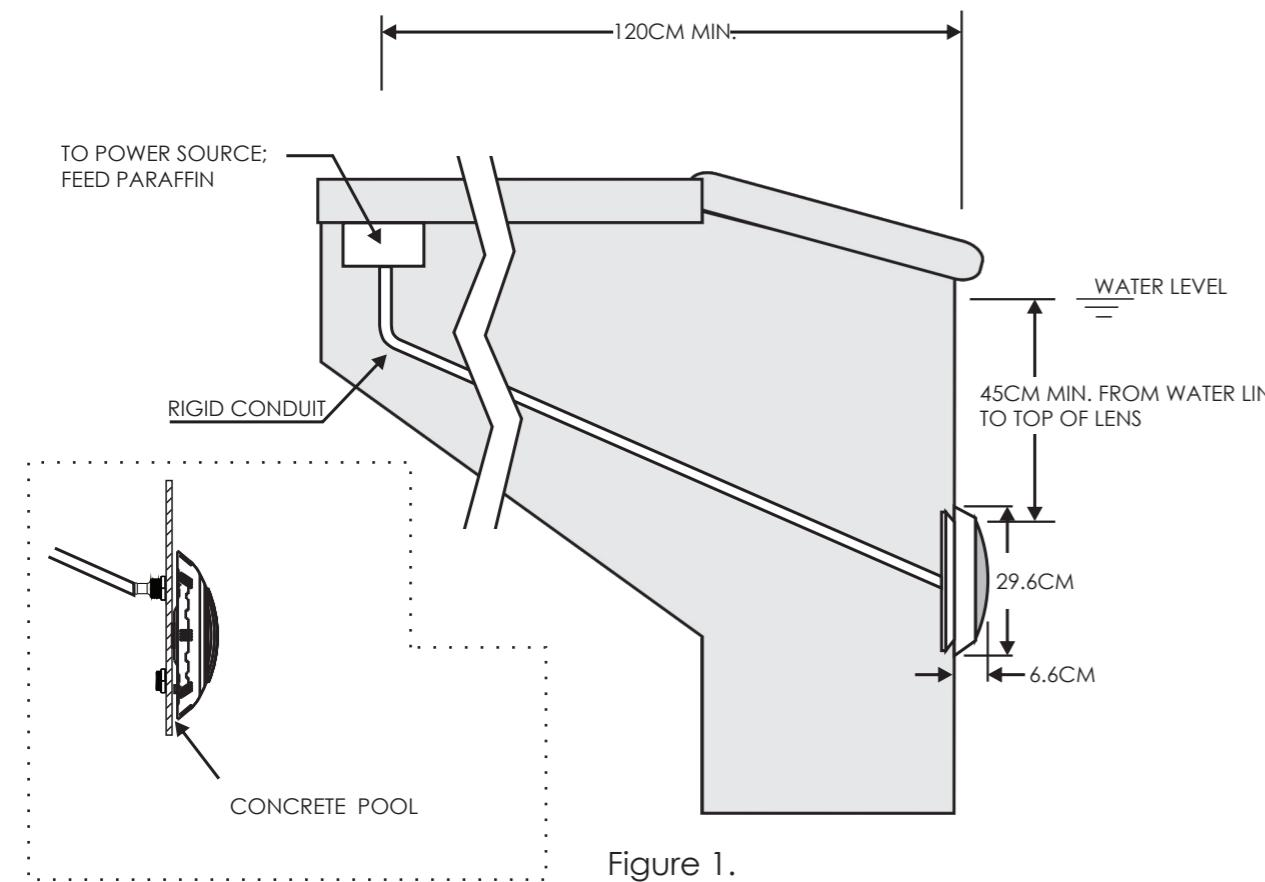

Figure 1.
A) Preparatory steps which must be completed by the electrician before light is installed, see Figure 1.
- a) The junction box, or the low voltage transformer for 12 volt Underwater Light model is to be located at least 120cm from the edge of the pool, see Figure 1.
- c) The mounting bracket must be properly installed so that the top edge of the Underwater Light lens is at least 45cm below the surface of the water in the pool, see Figure 1.
- 1) Locate position on a vertical wall where light is to be installed. The edge of the face plate must be 45 cm below normal water level, see Figure 1.